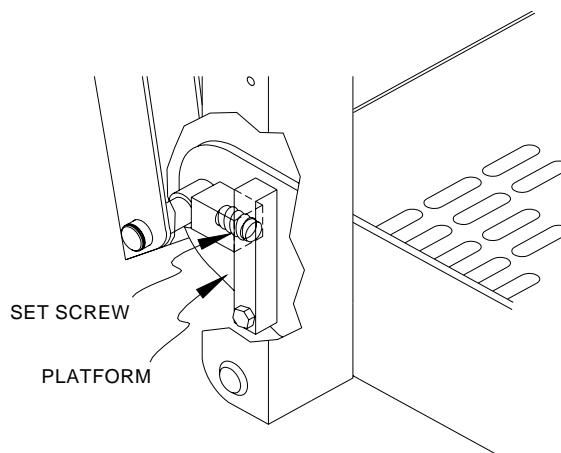

FIGURE 2-11: PLATFORM SET SCREWS
- b. Refer to **Figure 2-11**. Adjust left and right platform set screws until platform is level at zero degrees. Turn setscrews clockwise to angle front-end of platform upward, or counter-clockwise to angle downward.
Knuckle actuator saddle	<ul style="list-style-type: none"> Refer to Figure 2-11. Inspect both T-bolts on the knuckle actuator saddle for wear. Verify wear on T-bolts does not exceed 1/8" depth. Replace, if necessary.